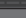

Fig. 115 Centre console: button to open and close rear lid.
- **OR:** press the button on the centre console for at least one second >>> **Fig. 115**. The button also works when the ignition is switched off.
- **OR:** press the  button located on the centre console until the rear lid is closed >>> **Fig. 115**.